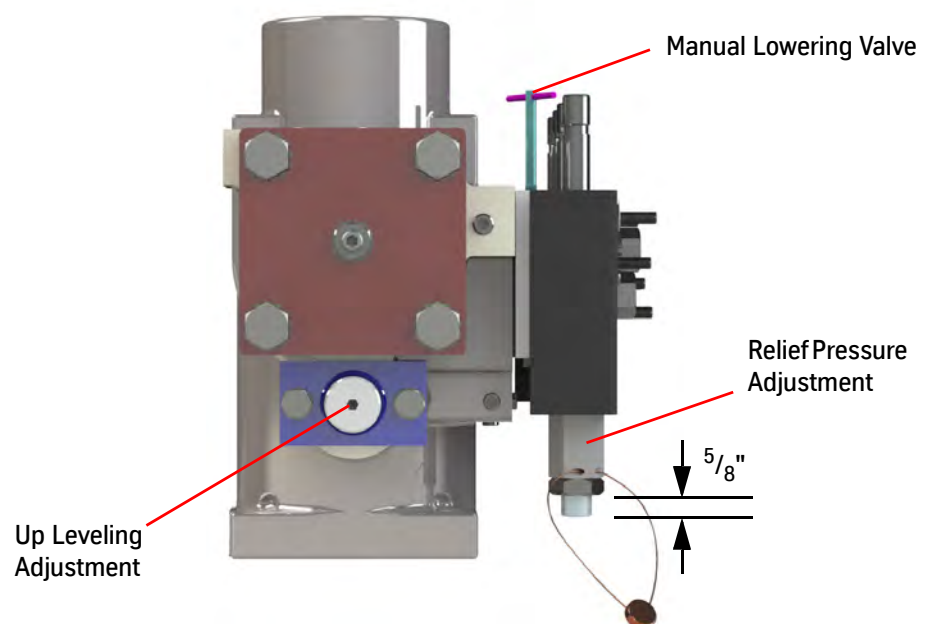

Figure 1 - Relief Pressure Setting
3. Open the manual lowering valve to lower the car onto the buffers. See Figure 1.